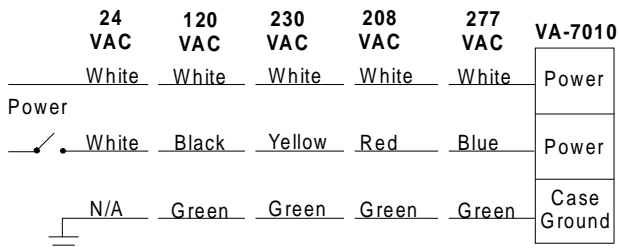

Figure 5: VA-7010 Wiring Diagram
3. Connect the wires as shown in Figure 5 for each respective model voltage.